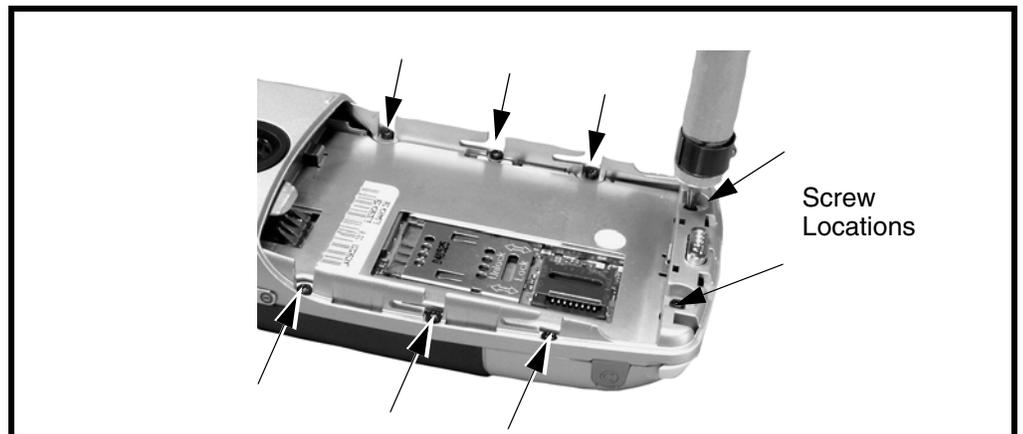

Figure 7. Removing the Rear Housing
5. Using a driver with a T-6 Torx Plus bit, remove the 8 screws that secure the rear housing to the front housing (see Figure 7).